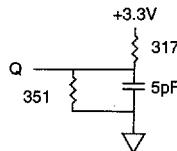

Fig. 2 OUTPUT LOAD EQUIVALENT
6. Output loading is specified with $C_L = 5pF$ as in Fig. 2. Transition is measured $\pm 500mV$ from steady state voltage.
11. The load used for V_{OH} , V_{OL} testing is shown in Fig. 2. AC load current is higher than the shown DC values.